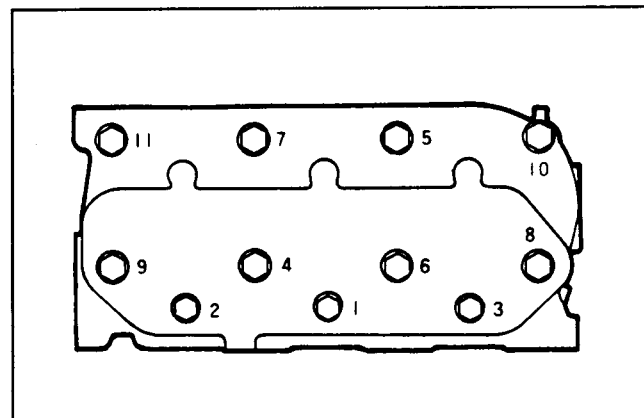

Figure 25
4. Tighten the cylinder head bolts to the proper torque. The rocker assembly must be removed before tightening the cylinder head bolts. When tightening the cylinder head bolts, lower the coolant level in the engine, loosen the bolts slightly and then re-tighten in the sequence shown (Fig. 25).